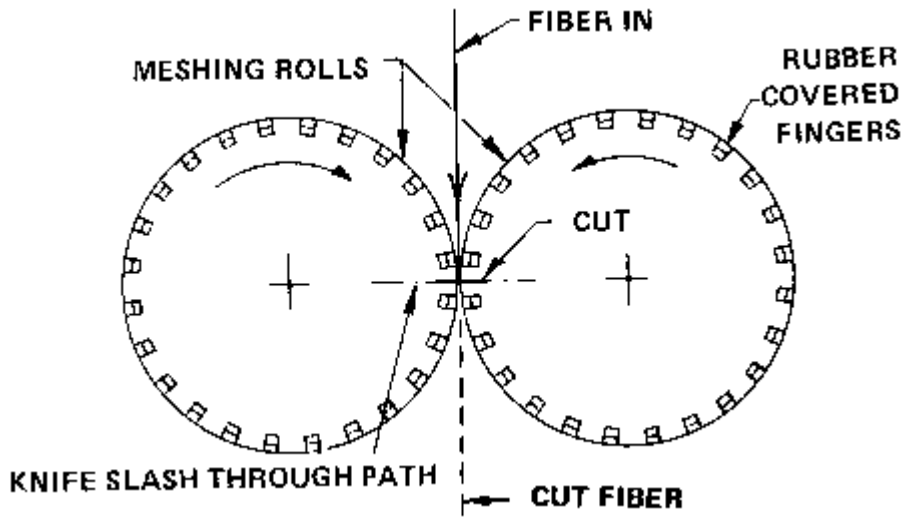

Figure 13
2. **Squeeze reels with knife slash through:** See Figure 13. In this method, two meshing rolls with rubber-covered fingers grip the fiber bundle on either side of the knife, while the knife is timed to slash between the moving fingers and cut the fiber. The Neumag (Gru-Gru) cutter is the only machine of this type. The design, interesting and unique, is used quite widely. The disadvantages are its impact (alligator) cut; down time to change knives (about every 30 minutes); the fact that it gets out of time and cuts rubber from the reel fingers; the fact that the knife hacks along on the filaments before cutting, damaging the filaments and dulling the knife; and its inability to cut short length staple.